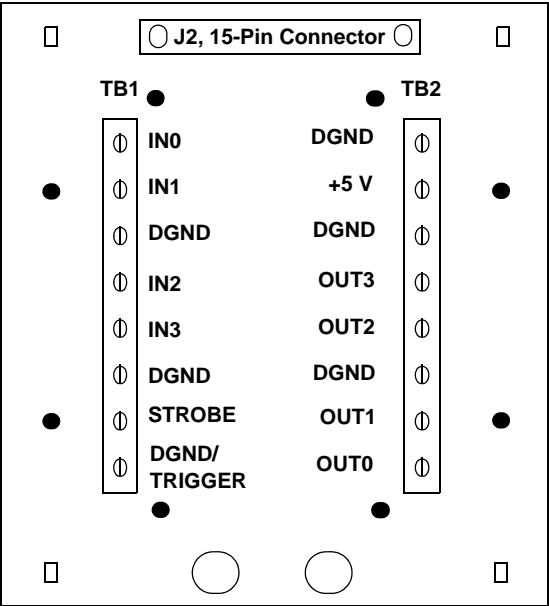

Figure 6: Layout of the STP15 Screw Terminal Panel
4. Connect digital input, digital output, external trigger input, strobe output, and/or +5 V output signals to the screw terminals of the STP15. Figure 6 shows the layout of the STP15 and the signal descriptions for each screw terminal.
Notes: In Figure 6, IN refers to digital input signals, OUT refers to digital output signals, DGND/TRIGGER refers to the external trigger input signal, STROBE refers to the strobe output signal, DGND refers to digital ground signals, and +5 V refers to a +5 V (250 mA) output signal from the DT3145 board.
The dark filled circles in Figure 6 represent holes that you can use to mount the STP15 on a DIN rail. To mount the STP15 on a DIN rail, you need two DIN rail mount adapters (Phoenix Contact part number 1201578 or Data Translation part number 18083), and four thread form screws (Bossard part number BN2724M3x8 or Data Translation part number 18193).